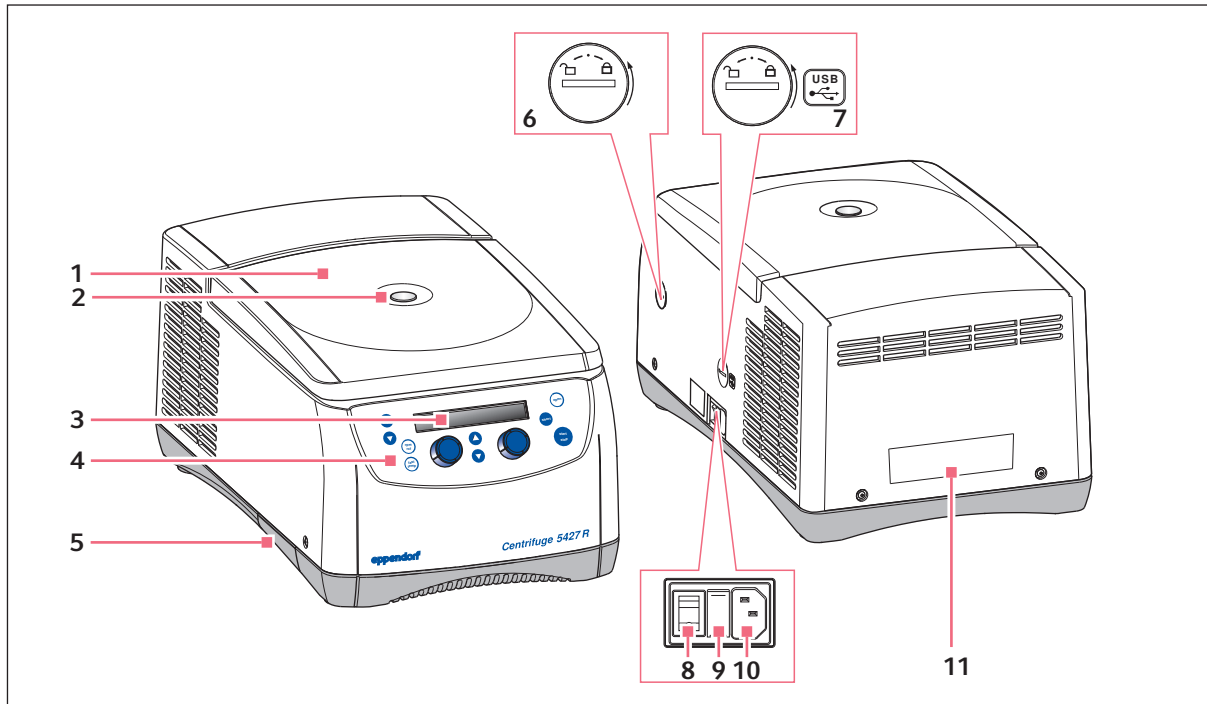

Fig. 3-1: Front and rear view of the Centrifuge 5427 R
8. Insert the condensation water tray into the holder provided (see Fig. 3-1 on p. 17).